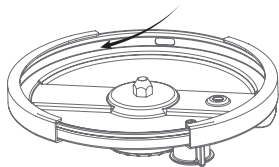

Fig.01
1. Place the sealing ring inside the lid, ensuring it is attached tightly to the surface and that its outer edge fits snugly in the groove. **(Fig.01)**